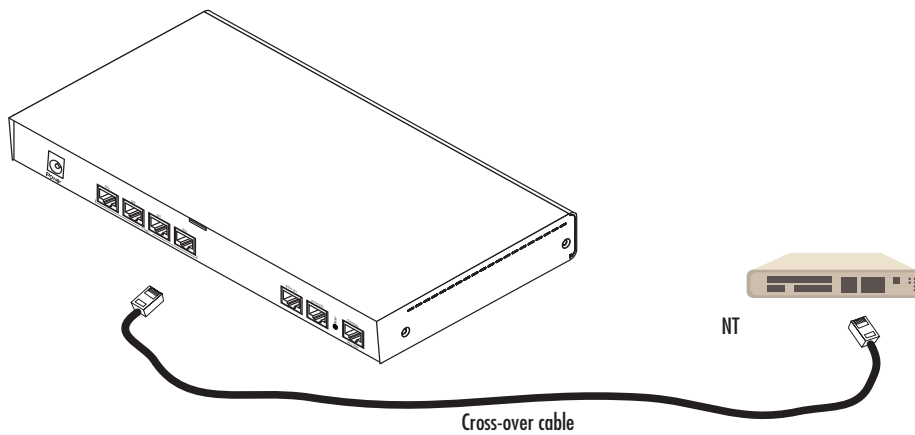

Figure 12. Connecting an E1 PRI port to an NT1
The E1 PRI is usually connected to a PBX or switch—local exchange (LE). Type and pin outs of these devices vary depending on the manufacturer. In most cases, a straight-through RJ-45 to RJ-45 can be used to connect the PRI with a PBX. A cross-over cable is required to connect to an NT device, as illustrated in figure 12 on page 58.